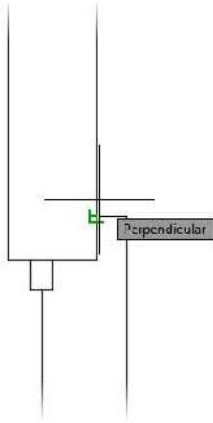

FIGURE 5.7: Use the Perpendicular osnap to draw the final line.
11. When the Perpendicular icon appears on the wall line, as shown in Figure 5.7, click to draw the top edge of the threshold.
TIP When using object snaps to locate points within a drawing, you do not need to select the osnap icon itself. Notice how the cursor in Figure 5.7 is located slightly above and to the right of the point AutoCAD found by using the Perpendicular object snap. Regardless of where you select, a perpendicular line will be drawn to the point highlighted by the Perpendicular osnap icon.